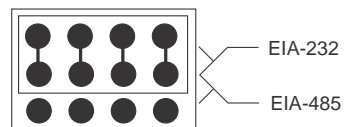

Figure 19. Configuration Jumper Settings
4. Plug EIA-485/232 configuration jumper to EIA-232 position as shown in Figure 19.